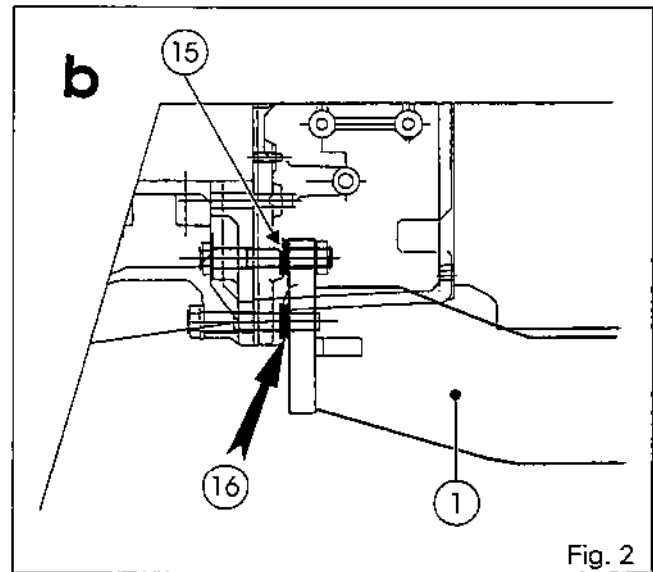

Fig. 2
- *9. Remove the two bolts **(1)** from the front shock absorbers on the right-hand and left-hand cab supports (Fig. 2). Raise the cab and fit wedges.
- *25. Lower the cab, ensuring that the balls of the gear lever and reversing lever are correctly positioned. Install the bolts **(1)** in the shock absorbers (Fig. 2) and tighten to a torque of 200 - 270 Nm.
Installation b (Fig. 2) - 2WD tractors